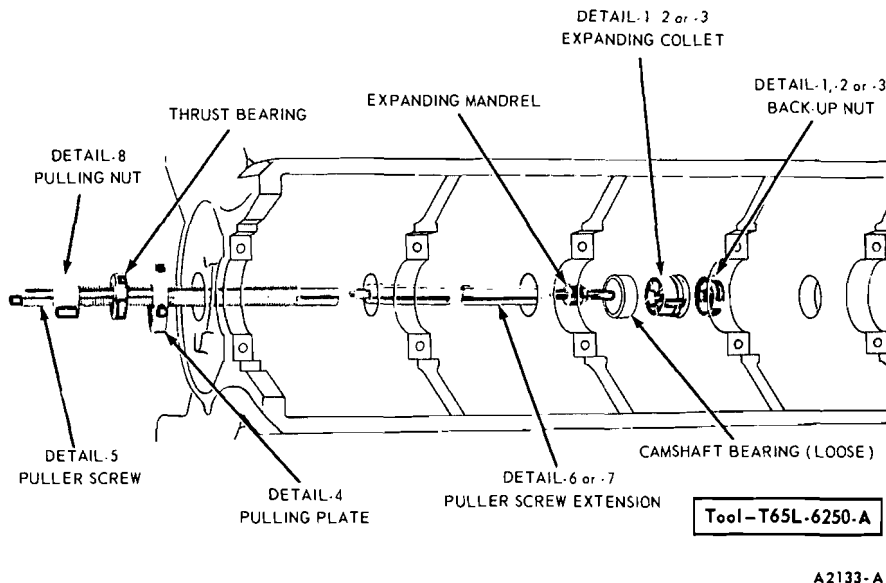
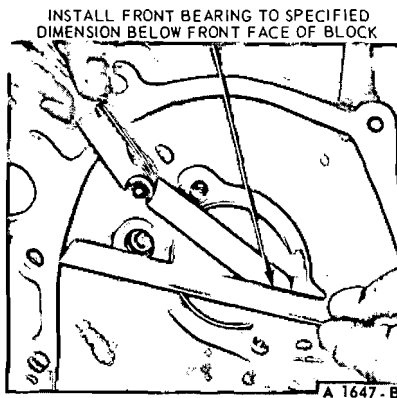

FIG. 71—Typical Camshaft Bearing Replacement
FIG. 72—Camshaft Front Bearing Measurement
2. Remove the camshaft rear bearing bore plug (Fig. 46). Remove the camshaft bearings (Fig. 71).
6. Position the new bearings at the bearing bores, and press them in place with the tool shown in Fig. 71. Be sure to center the pulling plate and puller screw to avoid damage to the bearing. **Failure to use the correct expanding collet can cause severe bearing damage.** Align the oil holes in the bearings with the oil holes in the cylinder block when the bearings are installed. **Be sure the front bearing is installed the specified distance below the front face of the cylinder block (Fig. 72).**
29. Remove the camshaft rear bearing bore plug (Fig. 46). Remove the camshaft bearings (Fig. 71).
3. Position the new camshaft bearings at the bearing bores, and press them in place with the tool shown in Fig. 71. Align the oil holes in the cylinder block when the bearings are installed. **Be sure the camshaft front bearing is installed specified distance below the front face of the cylinder block (Fig. 72).**